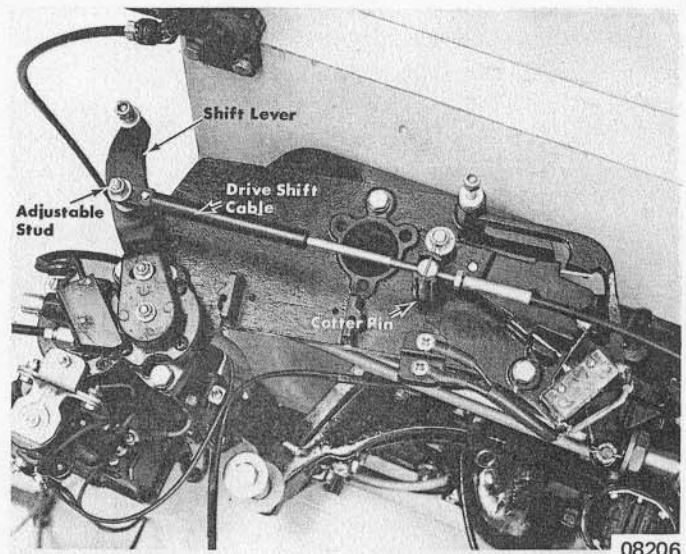

Figure 3. Installing Drive Unit Shift Cable
1. Coat recess of cutout switch lever and shift cable anchor points with Multipurpose Lubricant (C-92-49588 or C-92-63250). (Figure 3)
3. Remove cotter pin from shift cutout lever recess and remove elastic stop nut and flat washer from shift lever adjustable stud. Place brass barrel of drive unit shift cable into recess and place cable end guide on shift lever stud. (Figure 3)
5. Place flat washer on shift lever stud (stud located in slotted hole) and thread on elastic stop nut. DO NOT tighten nut securely, as end guide must pivot freely on stud. (Figure 3)
IMPORTANT: Before beginning shift adjustment, adjustable stud (Figure 3 - anchor point for drive unit shift cable) MUST BE to bottom of slot in shift lever. (Bottom of slot is toward reverse lock valve.)